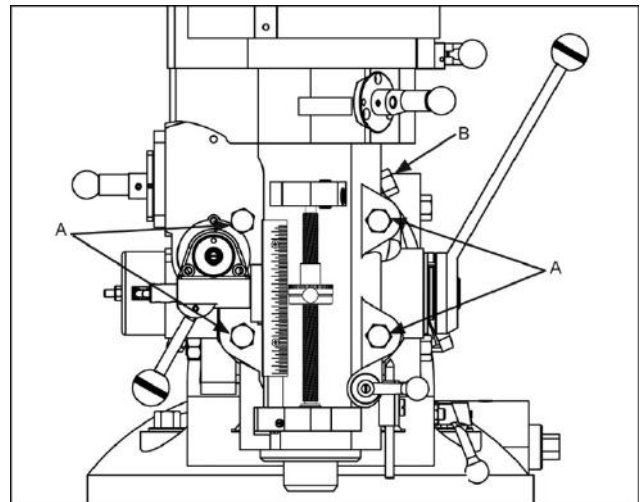

Figure 16
1. Loosen four large hex nuts that secure the mill head to the ram adapter (refer to Figure 16). 1/4 turn should be sufficient to allow head to move.